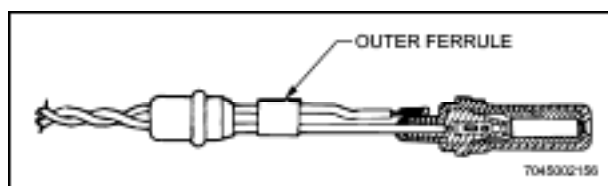

Figure 12-50 Final Assembly and Outer Ferrule Before Crimping the Outer Ferrule
g. Position the folded wire on top of the inner ferrule. (See Figure 12-50.) The centre contact shall be inserted until it is locked in place in the body assembly. A 1.5kg min to 2.3kg maximum pull shall be exerted on the cable to assure that the contact is securely locked in place.
- f. Slide the outer ferrule onto the cable prior to installing the centre contact in the body assembly. (See Figure 12-50.)